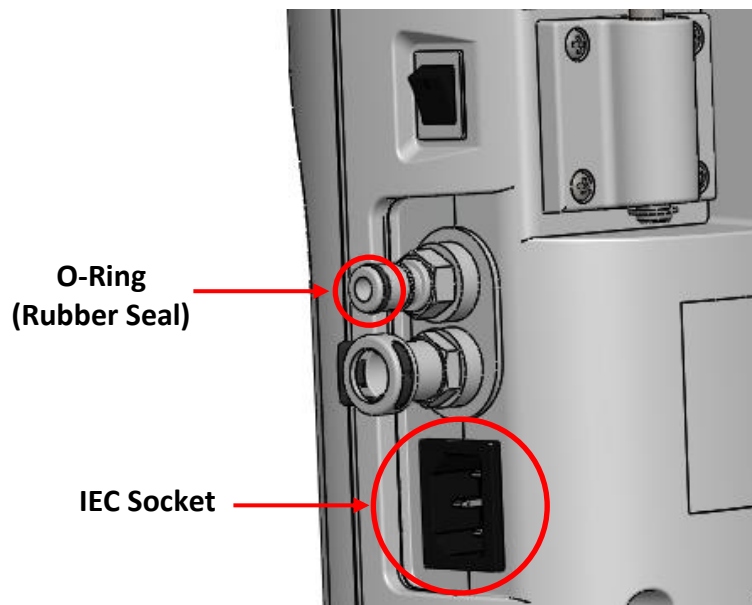

Fig: 3
4. Check that the O-ring on the male CPC connector (Fig: 3) is in place and not damaged or cracked.
5. Check around the edges IEC socket and the IEC socket itself for damage that may have occurred through impact or misuse. (fig: 3).